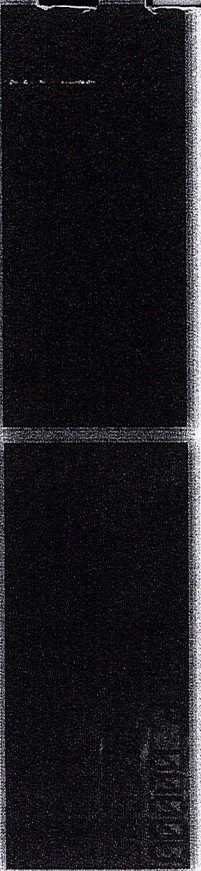

Figure 12: Compaction Screens
- b. If it is needed, do the rammer height settings via adjustment slots shown on Figure 12. The cam (lappet) can be put in its place either way, no difference.